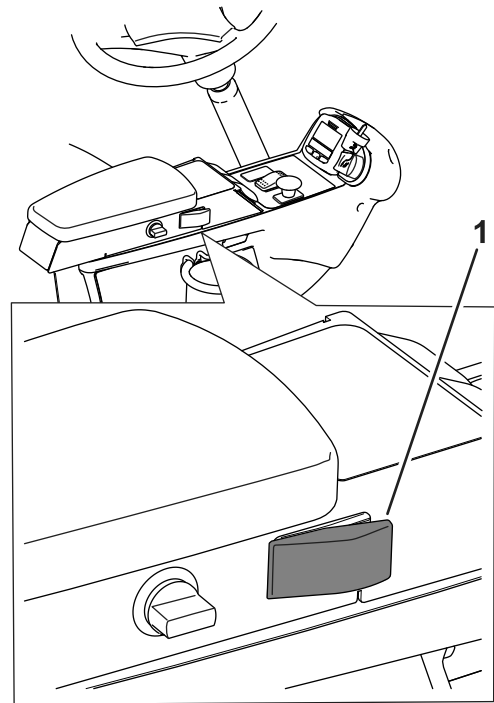
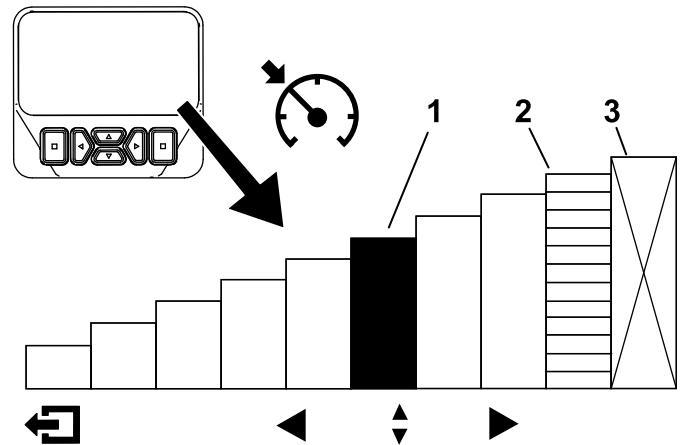

Figure 29
Figure 30
After the cruise control switch is enabled and the speed is set (Figure 29), use the InfoCenter to adjust the speed setting of the cruise control (Figure 9 and Figure 30).
1. Enable the cruise control switch on the console (Figure 29).
2. Use the InfoCenter display to adjust the speed setting of the cruise control (Figure 30).